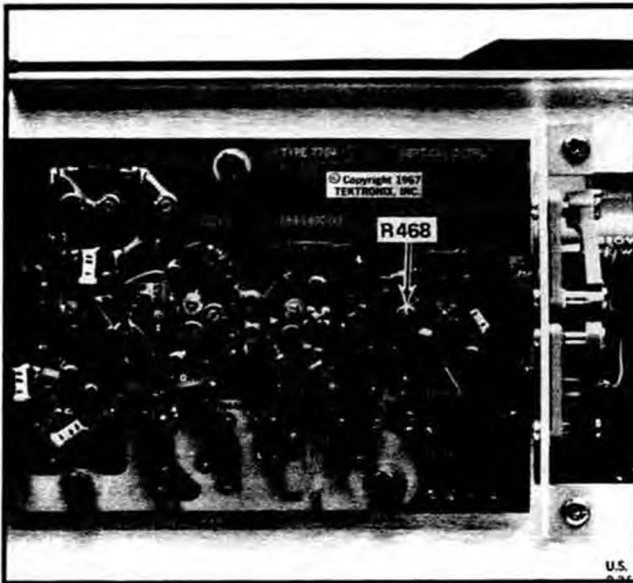

Fig. 5-10. Location of Vertical Output Amplifier Gain control R468.
e. ADJUST—Vertical Output Amplifier Gain control R468 (see Fig. 5-10) for exactly 6 divisions of deflection between the second and the sixth traces.